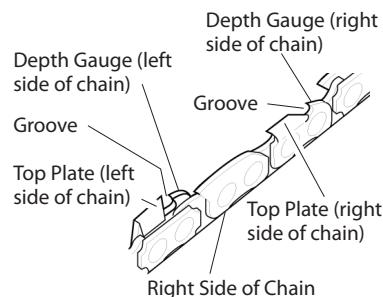

Figure 33 - Chain Part Locations
4. Hold file guide level. Make sure 30° mark on file guide is parallel to center of guide bar (see Figure 33). This will insure that you file cutters at 30° angle.
5. File from inside towards outside of cutter until sharp. Only file in this one direction (see Figure 33). *Note:* Two or three strokes with file should sharpen cutter.